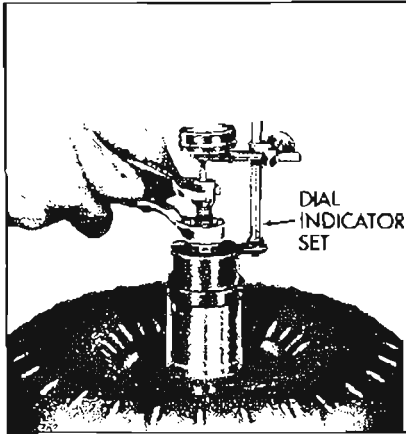

Figure 5-360
d. Loosen hex nut. When nut is fully loosened the reading obtained on the dial indicator will be converter end clearance. If clearance is .050" or over and the oil has the appearance of having been mixed with aluminum paint, replace the converter. See Figure 5-360.